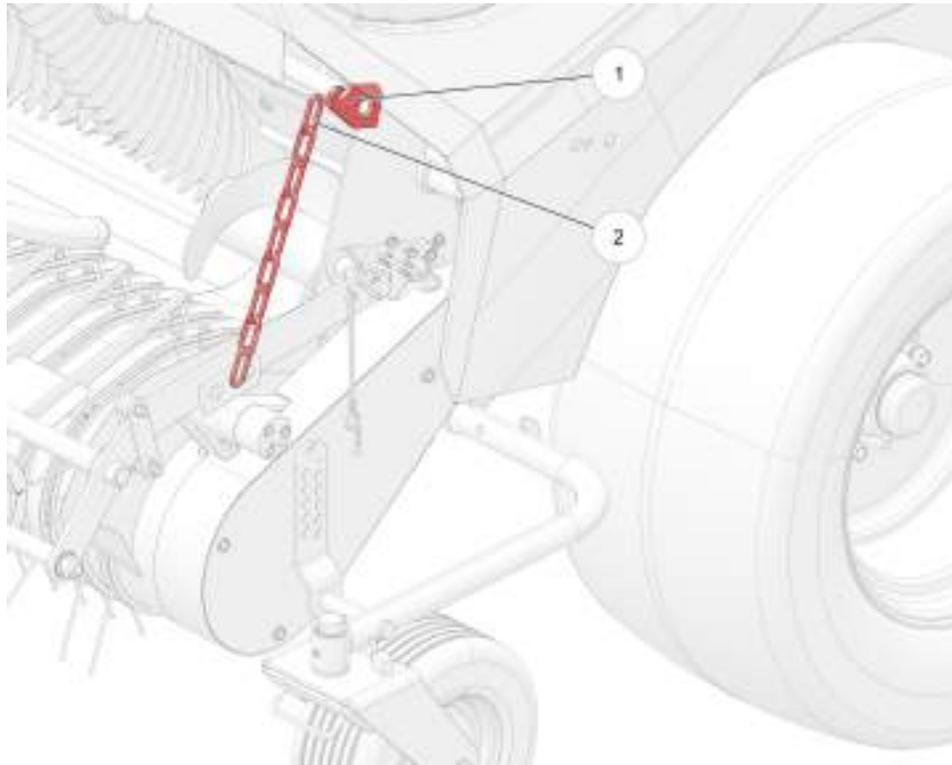

Figure 6. Pick-up safeguard
The pick-up safeguard is a safety chain (2) (see Figure 6 on page 2-18) that sets the height of the pick-up and protects it from falling if the hydraulic pressure should drop during driving. The chain prevents the pick-up from falling into holes or ditches in rough field conditions.